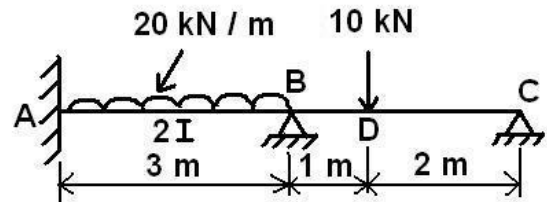

Fig. 5
- Q.3** (a) Analyze the beam shown in figure. 5 using Castigliano's second theorem. **10**